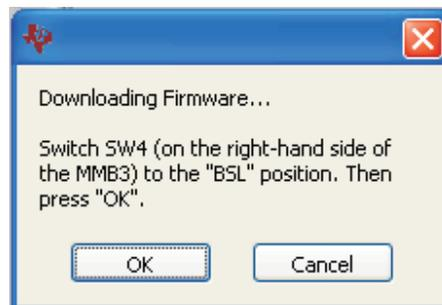

Figure 11. Firmware Download Message
- The plug-in will detect whether or not the board has the correct firmware loaded. The first time you use the ADS7924EVM-PDK, the firmware for the MMB3 may need to be downloaded to the MMB3. If the firmware must be loaded, you will see a screen as shown in Figure 11.